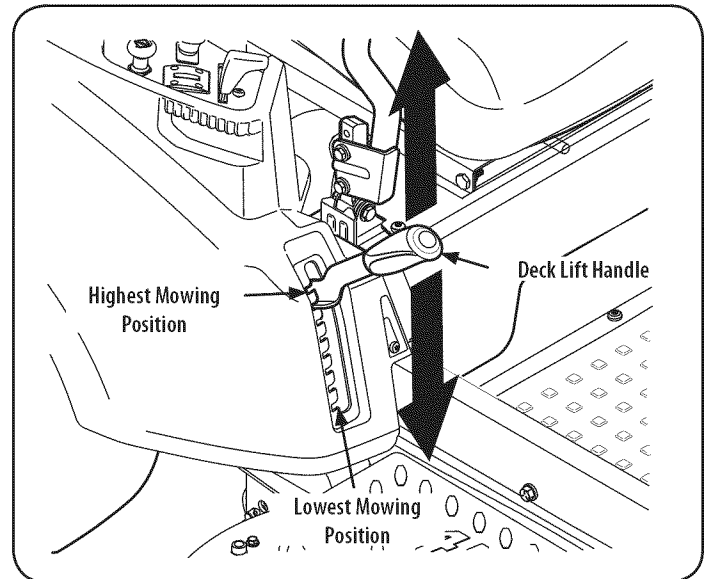

Figure 30
- a. Using the deck lift handle, raise the deck to the position that provides the most horizontal run of the belt between the deck idler pulleys and the PTO pulley on the bottom of the engine. See Figure 30.
6. Lower the deck into the lowest position using the deck lift handle. See Figure 30.
1. Place the deck lift handle in the highest mowing position. See Figure 30.